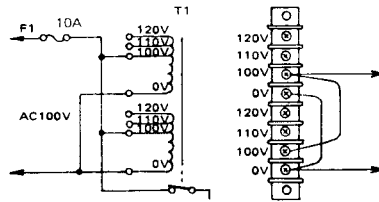

Figure 6.2 Connection for AC100V
- (3) Change the wiring of the transformer tap as shown in Figures 6.2 through 6.8.
- (4) When changing from the 100V-system to the 200V-system or vice versa, also change the capacity of the fuse housed in the fuse holder on the rear panel as follows:
- (5) Without the upper cover, connect the AC power cable to the AC line and energize for, at least, ten minutes, without a DC output load. During this time, check the power supply for abnormal condition and abnormal temperature rise of the transformer.
- (6) Connect certain DC output load such as the transceiver. Make sure of the power supply being normally operating.
- (7) Disconnect the AC power cable from the power line and attach the upper cover.